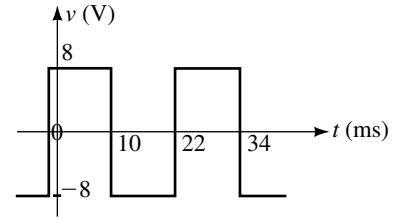

FIGURE 25-56
11. Write the expression including the first four sinusoidal terms of the Fourier series for the waveform of Figure 25-56.